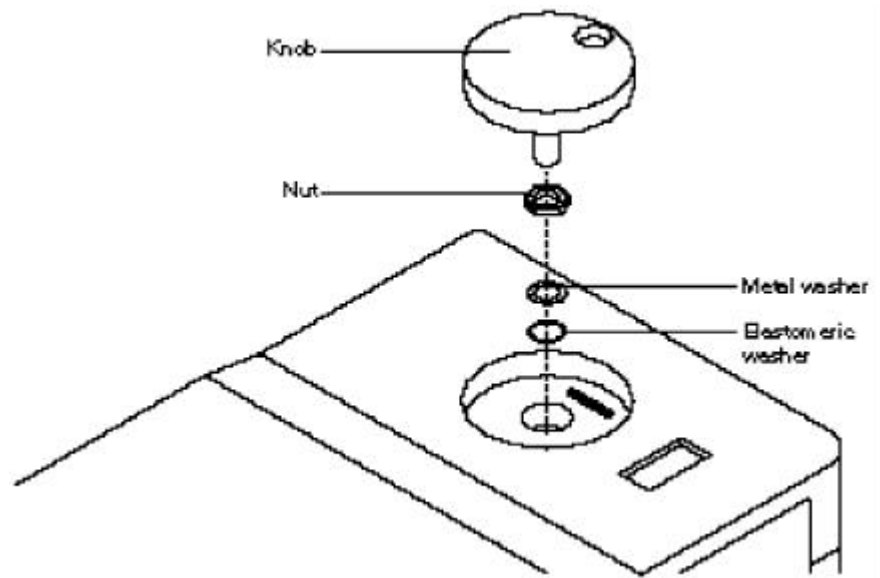

Figure 6-11: Knob Disassembly
2. Turn the cover right-side-up and use a small, flat blade to gently pry the knob off the shaft (Figure 6-11). Use caution to avoid nicking or denting the surrounding top cover.